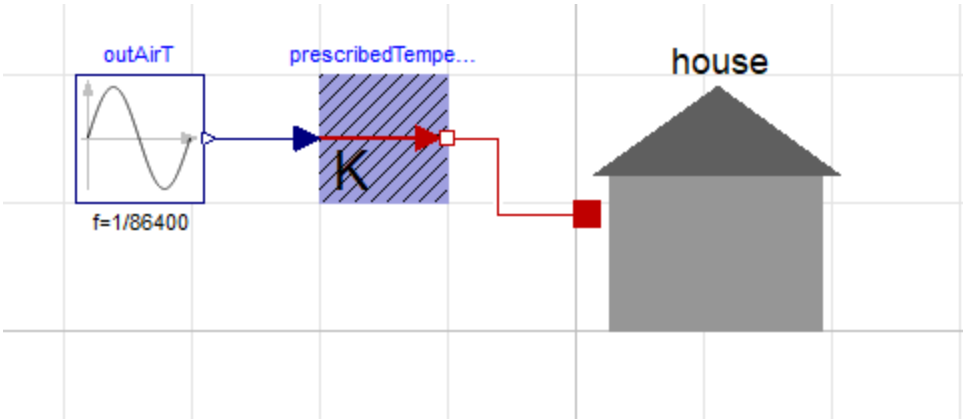

Figure 6.5: Connections in **Experiment1**
- SimpleHouse.Building.HouseWall (1)
- Modelica.Thermal.HeatTransfer.Sources.PrescribedTemperature (1)
- Modelica.Blocks.Sources.Sine (1)
- 5. Connect the components according to figure 6.5 and give values to parameters in outAirT according to the table below: